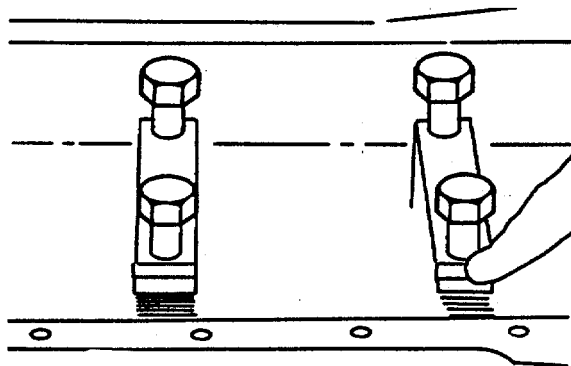

FIGURE 4-61. Installing Main Caps.
- g. Install the main caps in their corresponding position as shown in FIGURE 4-61.